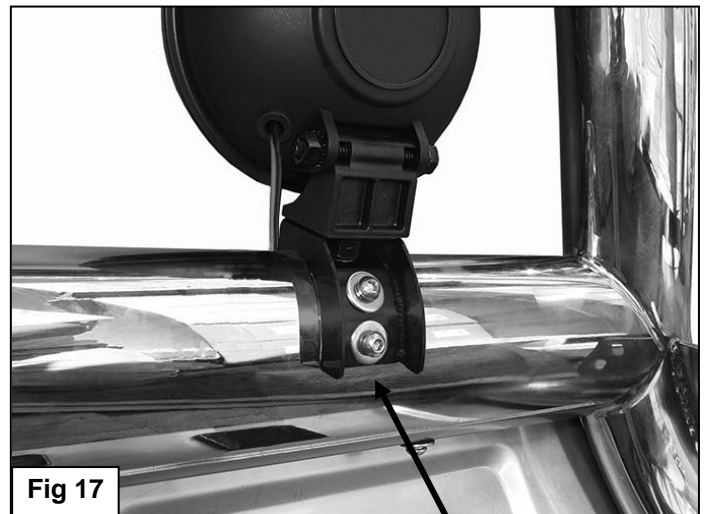

Fig 17
12. If aftermarket lights, (not included), are to be installed, remove the rubber plugs on the top of the cross bar. Select (1) Light Bracket, **(Figure 16)**. Attach the light to the Light Bracket using the hardware included with the light. Attach the light and Bracket to the back of the Bull Bar with (2) 6mm Button Head Bolts, (2) 6mm Lock Washers and (2) 6mm Flat Washers, **(Figure 17)**. Adjust the light as desired. **NOTE:** Depending on light design, repeated removal and reinstallation of the light and Bracket may be required for proper adjustment. Tighten all hardware once properly adjusted.